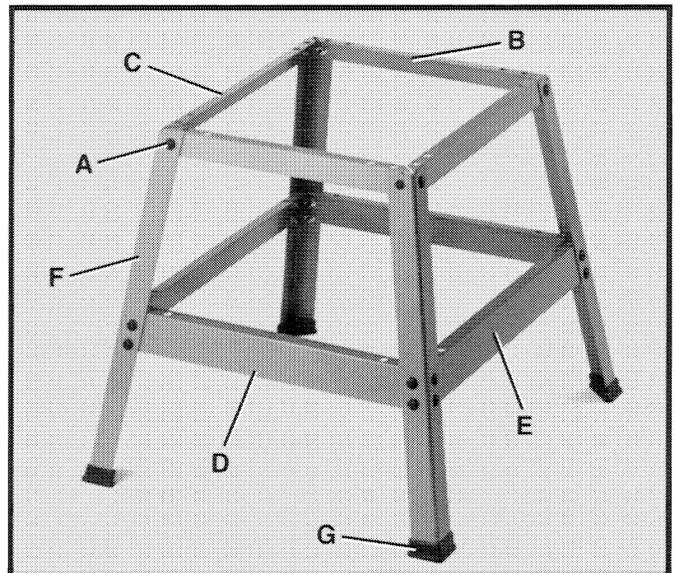

Fig. 8
Assemble the stand as shown in Fig. 8, using twenty-four 5/8" long carriage bolts (A), 5/16" I.D. flat washers and 5/16-18 hex nuts. For ease in identifying the top and bottom front, rear and side braces, refer to the following and Fig. 8:
- (B) Two top front and rear braces – 17" long
- (C) Two top side braces, 20-1/4" long
- (D) Two bottom front and rear braces – 21-1/4" long
- (E) Two bottom side braces, 24" long
IMPORTANT: The four legs (F) Fig. 8, should be positioned outside the braces as shown. Do not completely tighten the mounting hardware at this time.
Assemble the four rubber feet (G) Fig. 8, to the bottom of each leg (F) as shown. **NOTE:** Each rubber foot (G) is provided with a hole for mounting the stand to the floor surface if required.